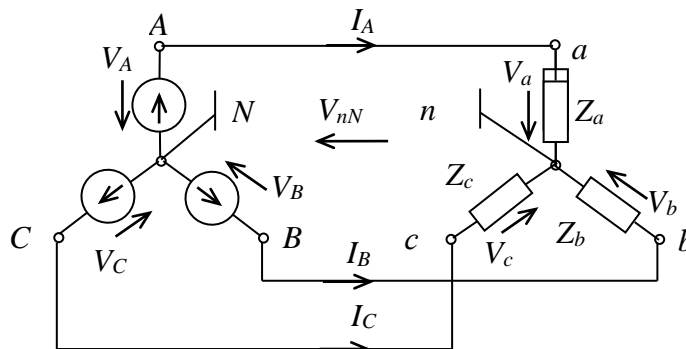

Fig. 6.3
where V_A , V_B , V_C – are *source phase voltages* (between the lines and neutral point N (fig. 6.3)). These voltages in complex form are presented as:
The most common types of connection the three-phase sources and consumers are WYE (Y) (fig. 6.3) and DELTA (Δ).
At WYE connection the ends of source phases windings (fig. 6.3) are connected in common neutral point N , and the beginnings of phases A, B, C are connected to the linear wires. The ends of consumer phase windings (fig. 6.3) are connected in common neutral point n , and the beginnings of phases a, b, c are connected to the linear wires.
If the load is unbalanced ($\underline{Z}_a \neq \underline{Z}_b \neq \underline{Z}_c$) the voltage between the neutral points of source and consumer appears $-V_{nN}$ (fig. 6.3). This voltage is called the *bias neutral* and can be calculated by using the method of two nodes: